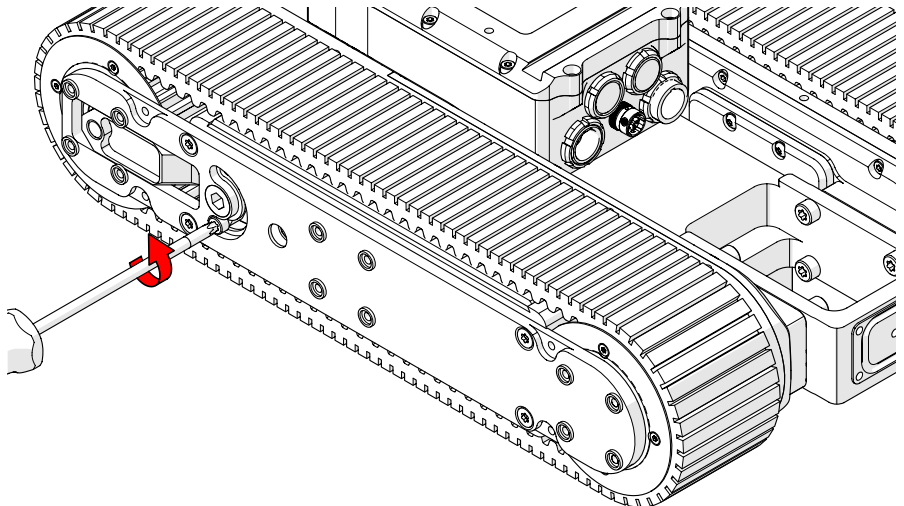

Fig. 57 - Loosen the belt tension holding screw
3. Loosen the belt tension holding screw with a T20 driver (Fig. 57).